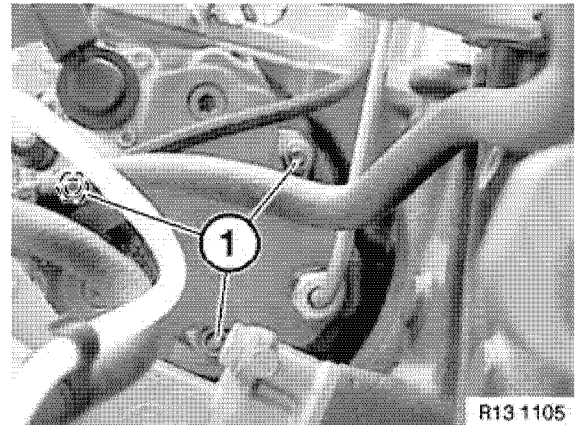

Figure 6-27
14. Remove three nuts (1, Figure 6-27).